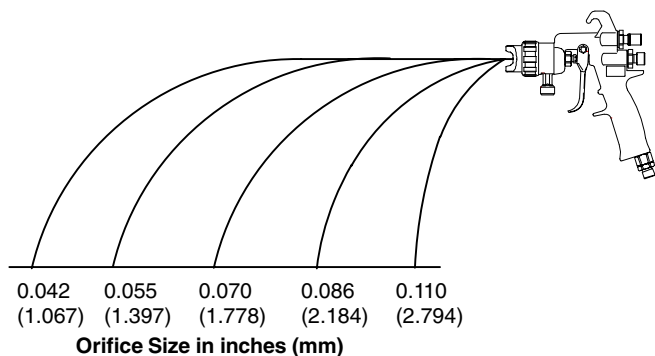

Fig. 10 7038A
- J. If after increasing the gun air supply pressure the atomization is still unacceptable, try installing a larger fluid nozzle size to reduce the fluid velocity. Refer to Fig. 10. Repeat steps 6-E to 6-I until you obtain the desired atomization.